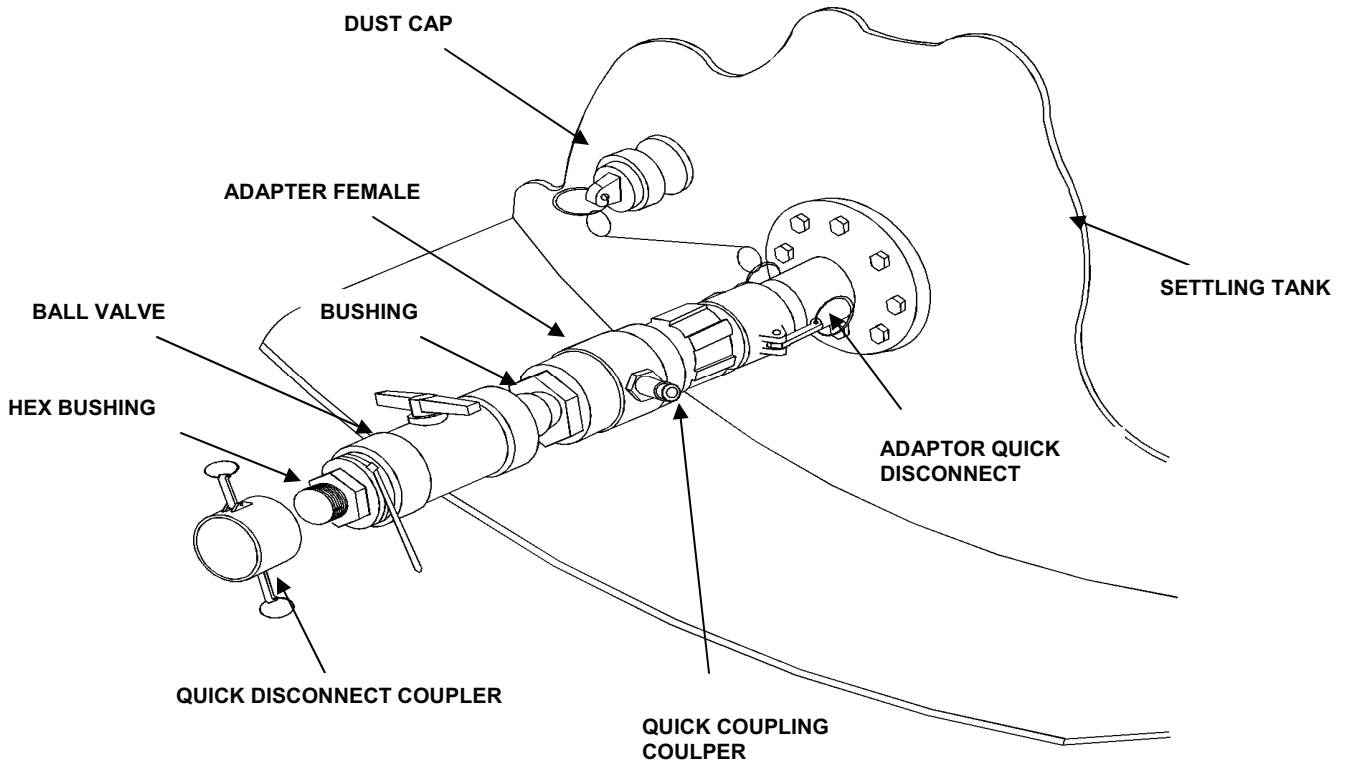

Figure 4. Settling Tank Inlet Spool Piece.
10. Attach the raw water inlet spool piece to the settling tank inlet. See Figure 4.